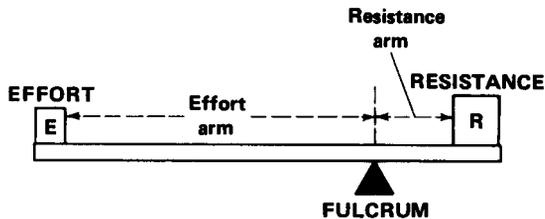

Figure 6-11
6. This diagram is a drawing of a first class lever (Fig. 6-11). Study it carefully and learn the names of all of the parts of a lever.
a. Using the terms in the diagram (Fig. 6-11), what would the book in Procedure 2 represent?